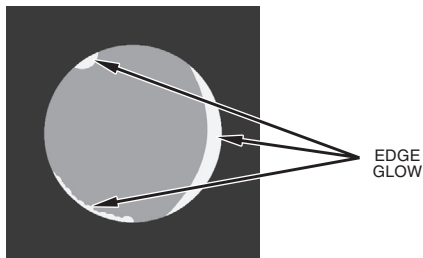

FIGURE 2.4. EDGE GLOW
(2) Edge Glow. Edge glow is a bright area (sometimes sparkling) in the outer portion of the viewing area (see Figure 2.4).